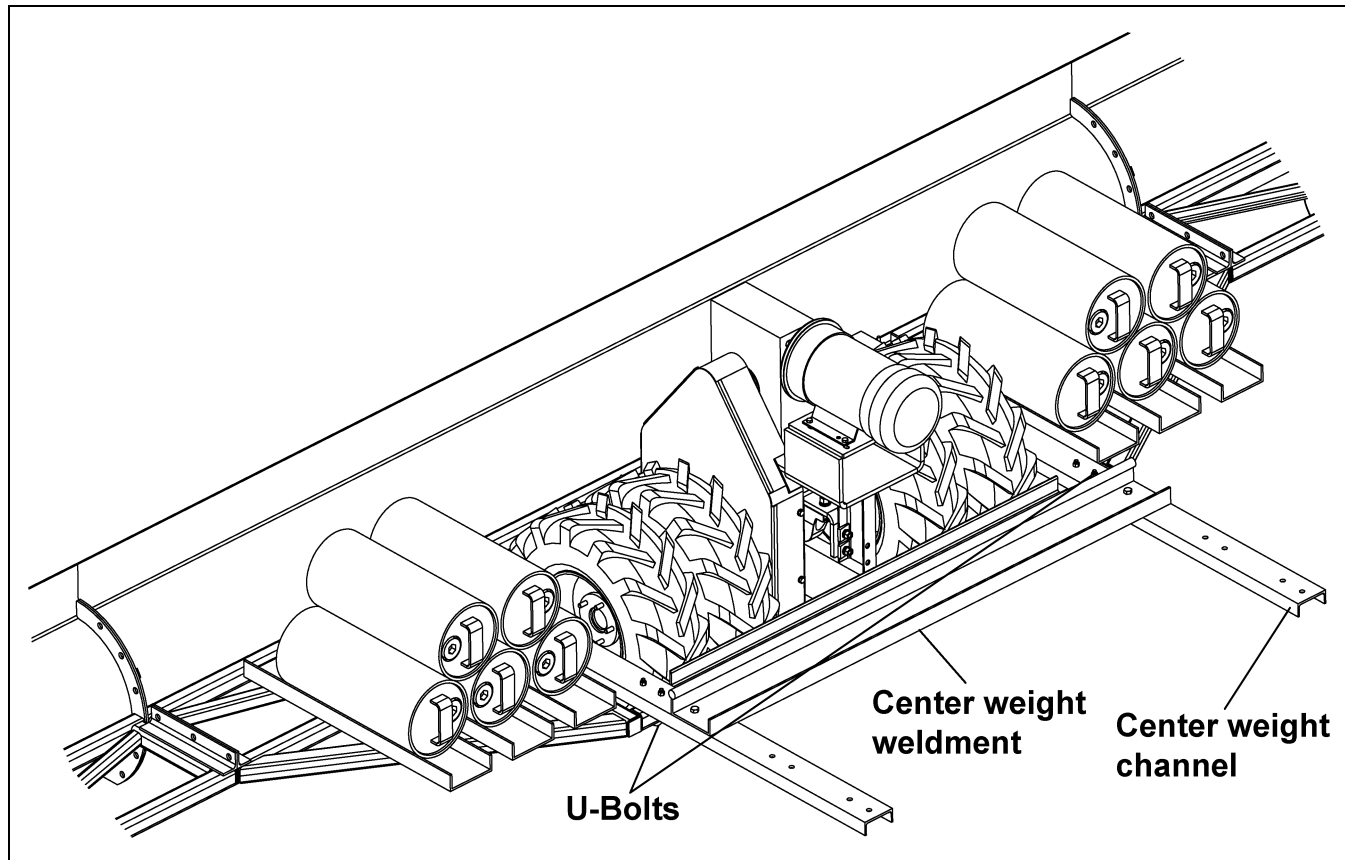

Figure 5S
- B. Attach the center weight weldments to the adjustable center weight channel using eight (8)  $1/2" \times 1-1/4"$  bolts, split lock washers and hex nuts. The adjustable center weight has three (3) sets of holes for the center weight weldments to adjust the weights. (See Figure 5S.)